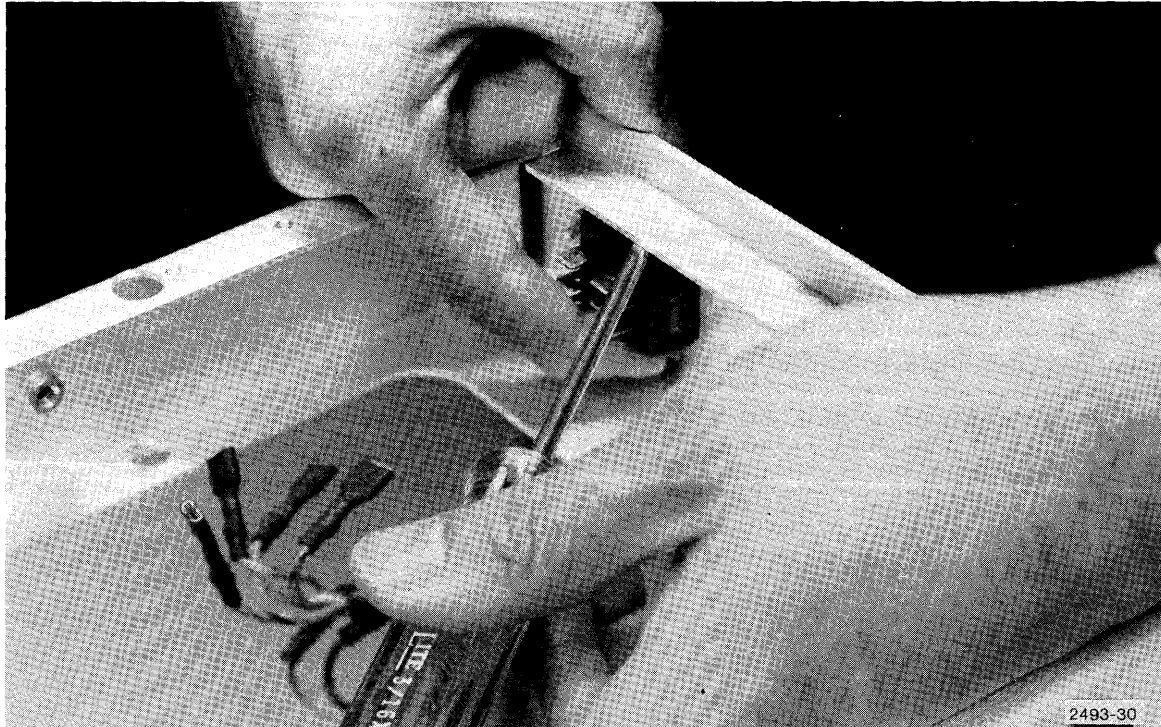

Figure 4-17. Removing Power Switch.
4. Inserting a screwdriver between the cabinet frame and the retainer tabs on the switch, use leverage to depress the tabs (Figure 4-17).